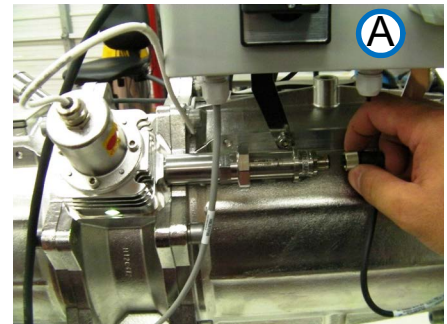

Figure 10-33: Removing connector A (Generic View)
- Step 1.** To disconnect the harness connector (shown in view **A**, **Figure 10-33**), unscrew the sensor's threaded locking nut.